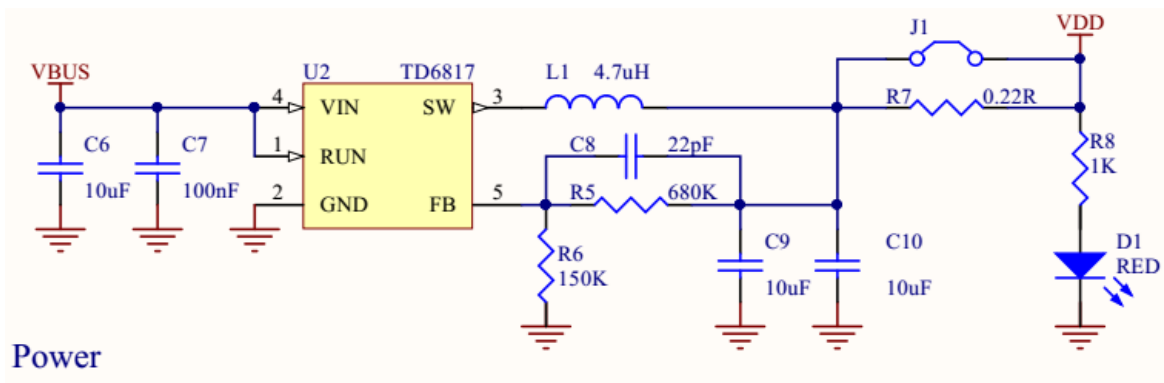

Figure 14 Power reference circuit
- Please according to the SMT reflow soldering curve, peak temperature $245\text{ }^{\circ}\text{C}$, reflow soldering, temperature curve as shown in figure 14, section 7.6;